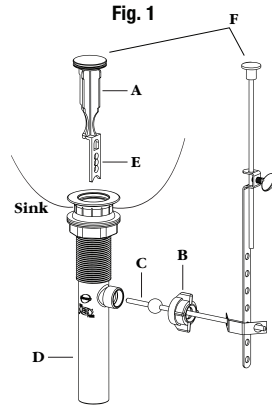
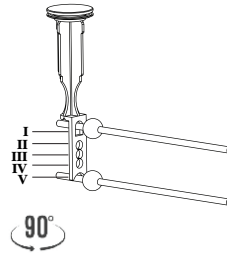

Fig. 2
Fig. 3
2. Underneath sink, unscrew the Nut (B) that secures Ball Rod (C) in Drain Body (D).
3. Slide Ball Rod (C) out until Pop-up Stopper (A) will lift out of the sink.
4. Place new Pop-up Stopper (A) into the Drain Body (D), Tab (E) facing Ball Rod (C). Insert Ball Rod (C) into the Drain Body (D) through any one of the I-IV openings (shown in figure 2) in the tab (E) to lock in the pop-up Stopper. If necessary, the ball rod can also be placed in the location V below the tab (E) as show in figure 2. If none of the locations I-V on the Tab (E) aligns with ball rod, lift out the pop up stopper and rotate it 90 degrees and place it back inside to see if the location VI can be used as shown in figure 3.
5. Screw the Nut (B) along with any washers if present. **DO NOT OVERTIGHTEN.**
6. Check if the Pop-up stopper is functioning properly using lift rod (F).